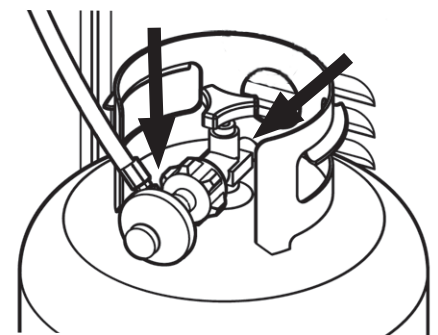

Fig. 3a
6. Check for leaks by brushing the soap solution on all gas valves, hose connections and fittings. (Shown by the heavy arrows in Fig. 3a, 4, 5, and 6) Make sure you generously brush the locations with the soap solution, completely surrounding the connections and fittings.